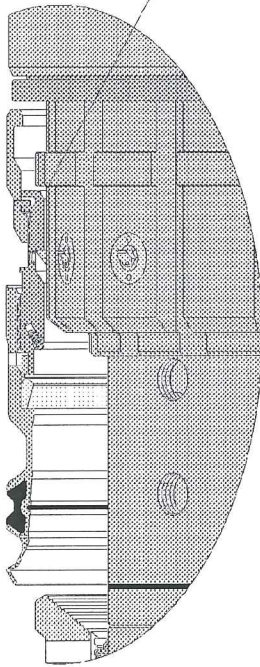

Figure 18. Seal Assembly properly snapped on the Running Tool shear pins
- c. Lift the Seal Assembly onto the lower outer body of the Running Tool. Raise the Seal Assembly until its main body contacts the thrust shoulder on the lower outer body. Refer to **Figure 18**.